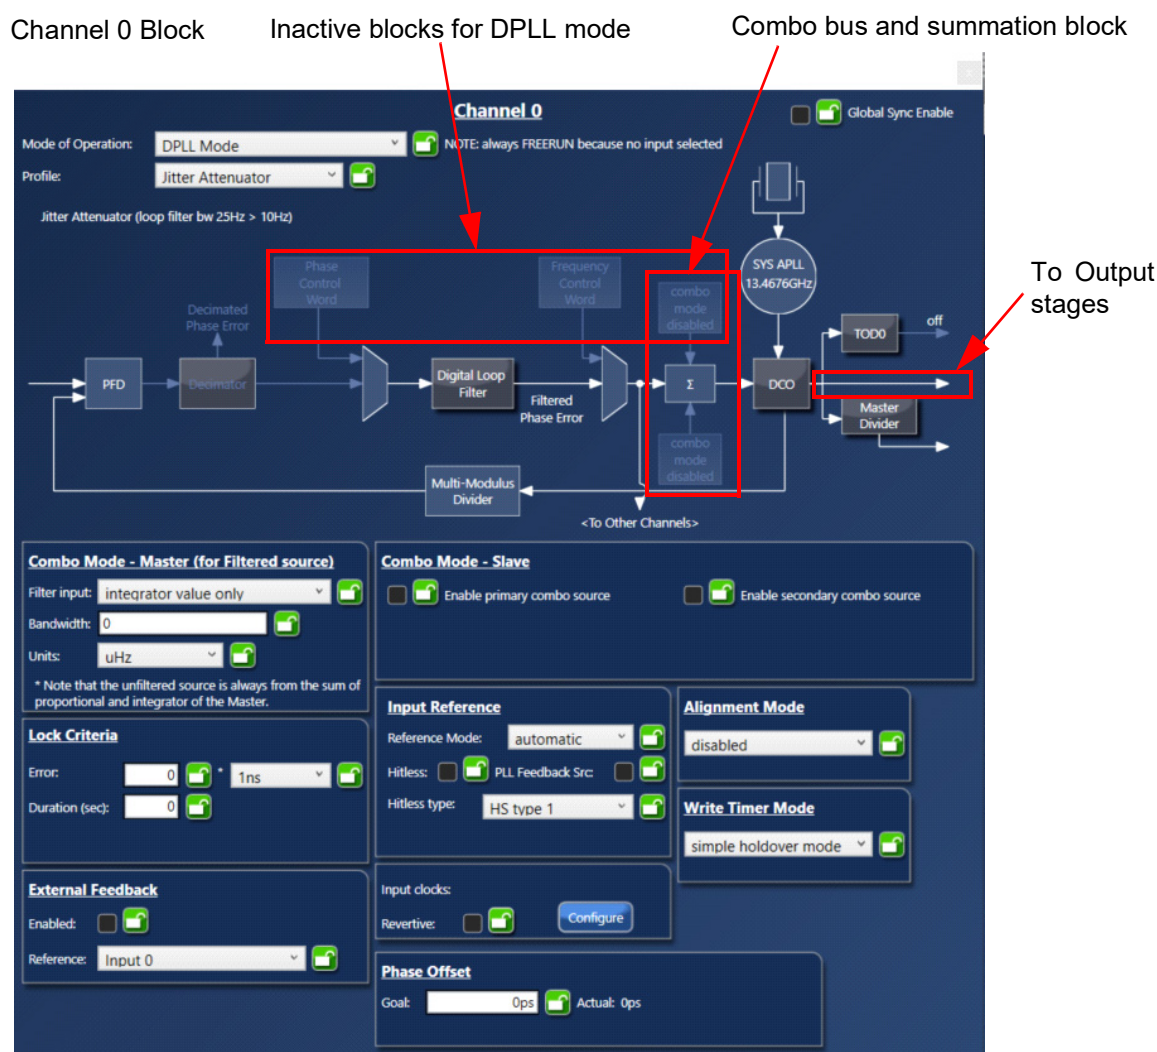

Figure 7. Channel Block Window (cont.)
- Depending on the mode of the channel, certain blocks become active/inactive (see Figure 7)
- Channels are connected via the summation block before the DCO (see Figure 7)
- The output of each channel (output of DCO) feeds a respective output stage (see Figure 7)